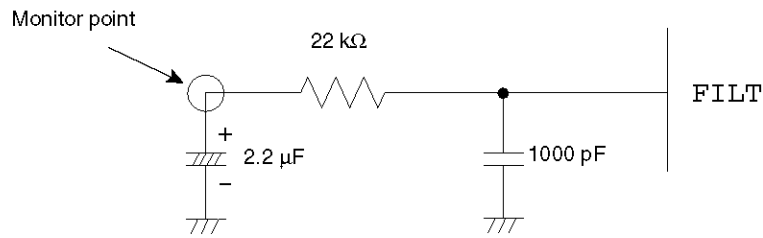

Figure 10 FILT Recommended Circuit
| Horizontal pull-in range | FH | $\overline{\text{HS}}$ | The monitor point in Figure 10 is 1/2 V _{DD} . | 4.5 to 5.5 | 15.23 | 15.73 | 16.23 | kHz |
- Adjust the voltage of monitor point in Figure 10 to $1/2V_{DD} \pm 10\%$ by the LC oscillation constant 'L' or 'C' to lock the PLL circuit.